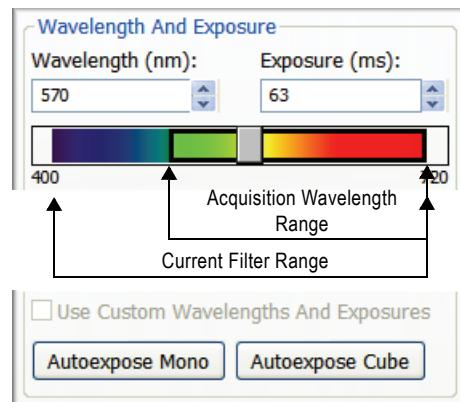

Figure 19. Wavelength and Exposure
- Drag the slider to the desired wavelength. The slider snaps to the wavelength intervals set in the acquisition settings. As shown in Figure 19, the wavelength slider indicates the current filter range. The highlighted region on the slider represents the acquisition wavelength range. The colors on the slider approximate how we would see the wavelengths within the range.